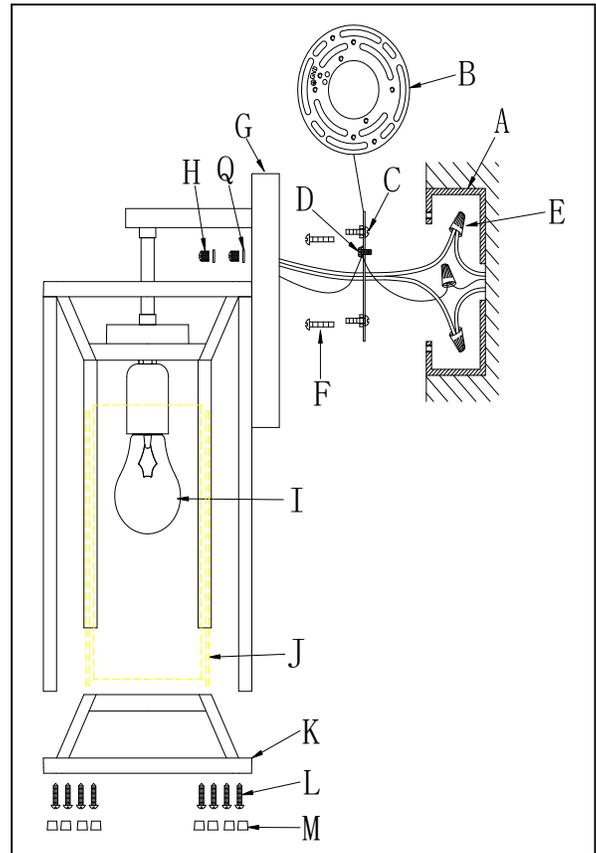

Fig.2
CONNECTING THE WIRES (Fig. 2)
5. Connect the electrical wires as shown in Fig 2. with connectors (E), making sure that all wire connectors are secured. If your outlet box has a ground wire (green or bare copper), connect the fixture's ground wire to it. Otherwise, connect the fixture's ground wire directly to the mounting plate (B) using the green screw (D) provided. After the wires are connected, carefully tuck them inside the outlet box.